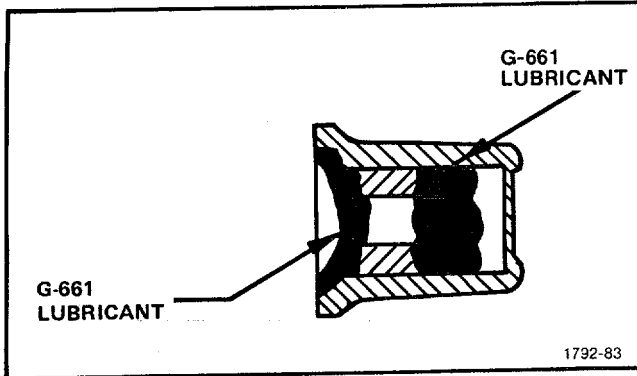

Figure 5-30. Lubrication of POSITION control knob.
**27. Installation of the POSITION knob and the FINE POSITION knob (see Figs. 5-30 and 5-31)**
1. Apply G-661 lubricant to the POSITION knob as shown in Fig. 5-30.